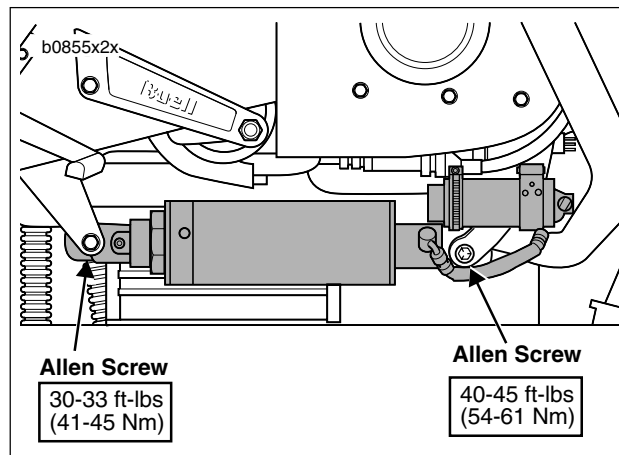

Figure 2-79. Shock Mounting Hardware
6. See Figure 2-79. Remove allen screw (metric) and locknut on front mount. Discard locknut.
2. See Figure 2-79. Loosely install rear allen screw (metric) and **new** locknut.